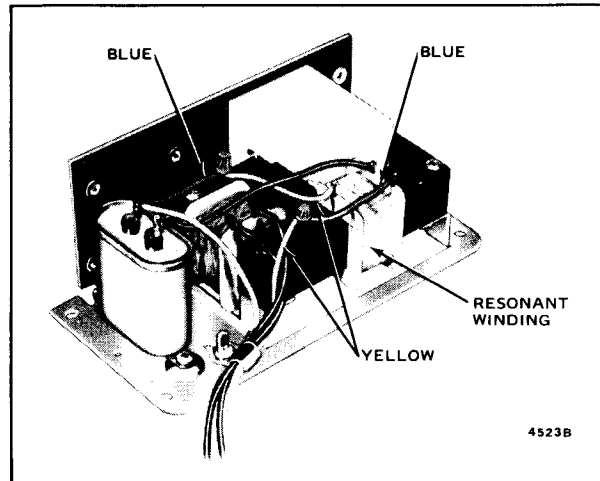

FIG. 16—USE WIRE NUTS TO RECONNECT THE WIRES AS SHOWN HERE.
- g. Connect the blue wire leading from the capacitor to the yellow wire leading from the transformer. See Fig. 16.
- h. Connect the blue wire leading from the transformer to the yellow wire that goes through the wire clamp (Fig. 16).